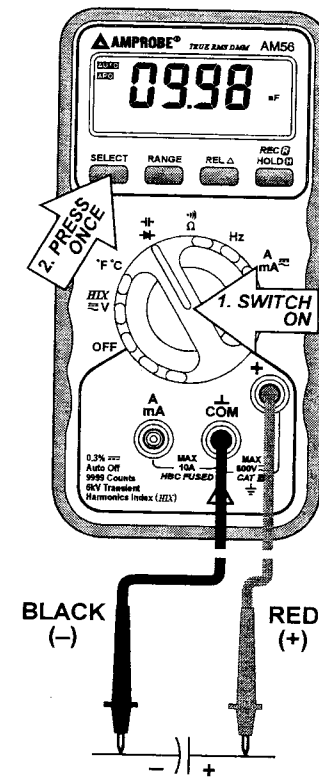

FIG 6. CAPACITANCE FUNCTION (not available in AM50)
- 4) Connect the test leads as shown in **FIG 6** and observe the digital display